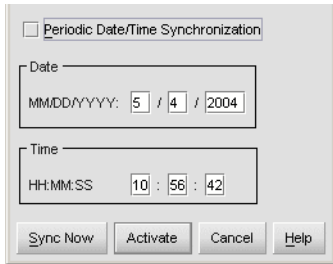

Figure 47 Configure Date and Time dialog box
1. Click the **Configure > Date/Time**. The Configure Date and Time dialog box displays, as shown in Figure 47.